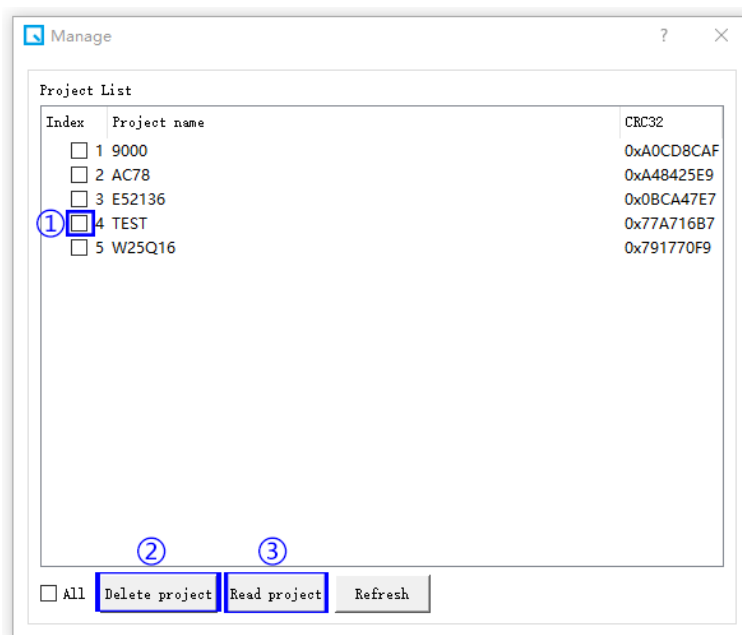

Figure 4.18: Project Management Interface
2) Pop up the project list window (as shown in Figure 4.18).
The list gives the names of projects in the current programmer, and it is needed to check the project first (as shown in Figure 4.18-①).
Then, click "Delete Project" to delete the checked project (as shown in Figure 4.18-②).
It is also allowed to click "Read Project" to read the checked project (as shown in Figure 4.18-③).